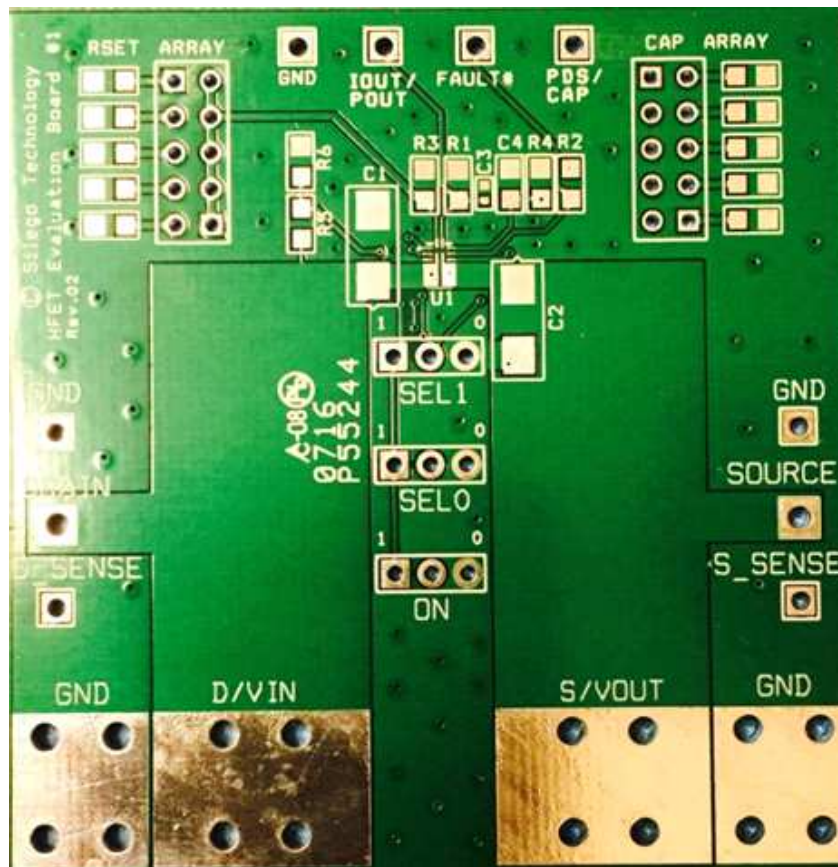

Figure 28. SLG5NTH1011V Evaluation Board
1. Since the VIN and VOUT pins dissipate most of the heat generated during high-load current operation, it is highly recommended to make power traces as short, direct, and wide as possible. A good practice is to make power traces with absolute minimum widths of 15 mils (0.381 mm) per Ampere. A representative layout, shown in Figure 28, illustrates proper techniques for heat to transfer as efficiently as possible out of the device;
A High Voltage GreenFET Evaluation Board for SLG5NTH1011V is designed according to the statements above and is illustrated on Figure 28. Please note that evaluation board has D_Sense and S_Sense pads. They cannot carry high currents and dedicated only for RDS_{ON} evaluation.